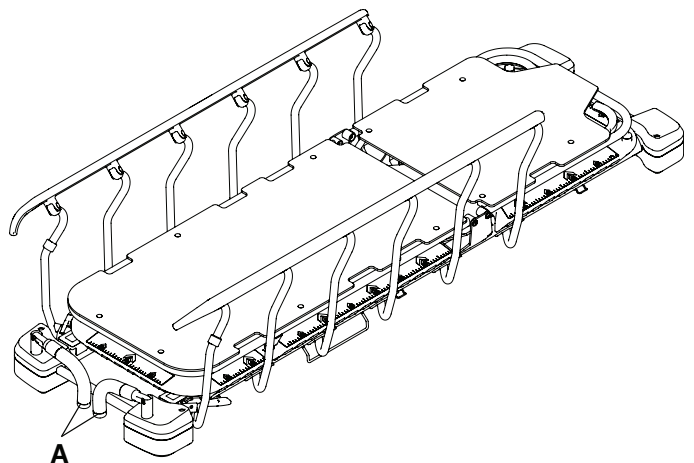

**Figure 10 – Stowing the foot end push handles**
4. Reverse steps to stow the foot end push handles (A) (Figure 10).